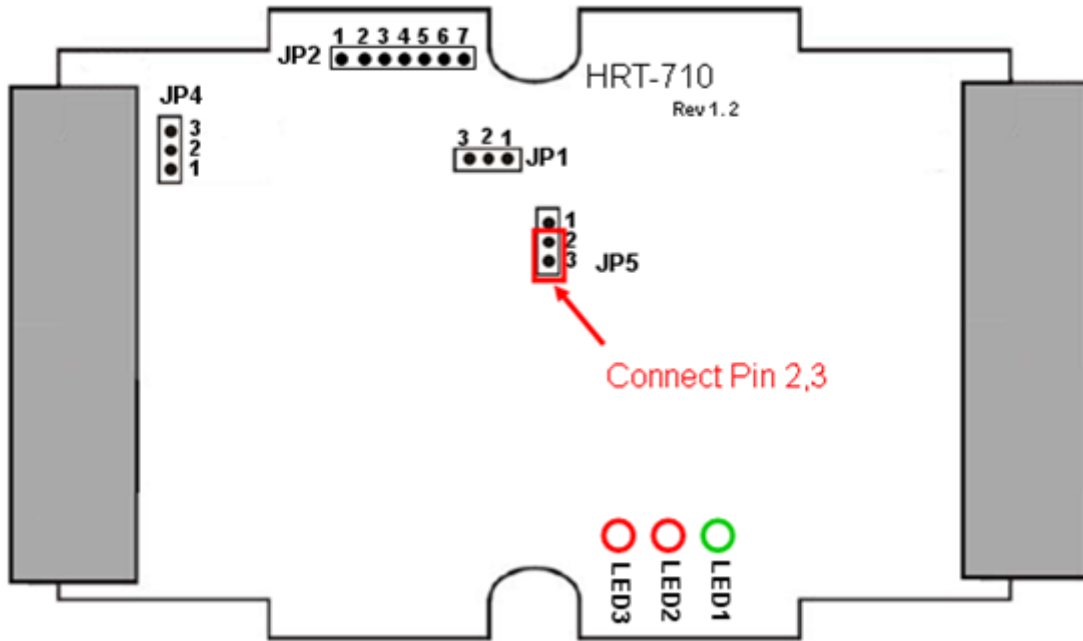

Figure 4-1 Connect pin 2 & 3 of JP5 together
- (1) Download the newest firmware of HRT-710. (Download from <https://www.icpdas.com/en/download/show.php?num=2907&model=HRT-710>)
- (2) Turn off the power and open the shell of HRT-710. Then connect the pin 2 & 3 of JP5 together like Figure 4-1.